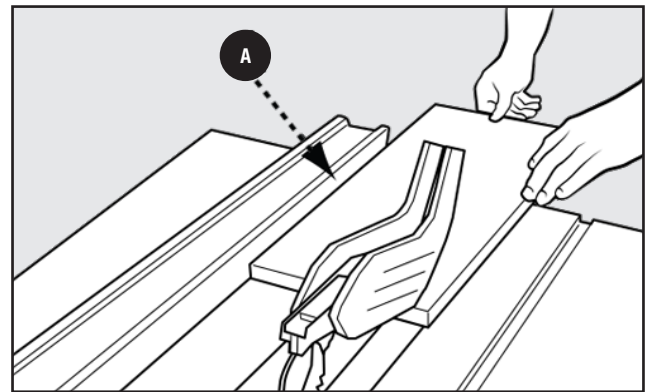

FIGURE 46
9. Hold the workpiece flat on the table and against the fence **A**. The workpiece **MUST** have a straight edge against the fence and **MUST NOT** be warped, twisted or bowed. See proper hand position in Figure 46.